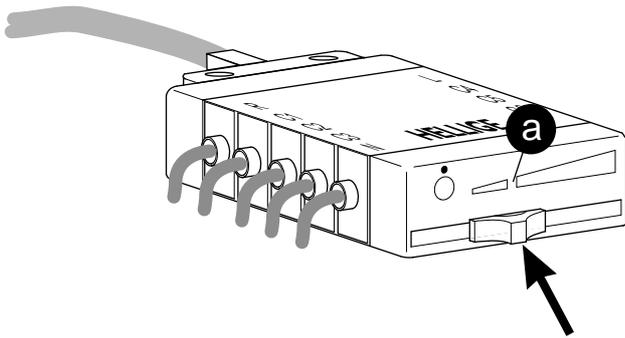

Figure 4-1. Negative pressure control at electrode distributor
**For standard applications the negative pressure control should be set to the gap in the arrow marker (a, Figure 4-1). This setting is in most cases sufficient for resting ECGs, while exercise tests will require a slightly higher setting. Be careful to determine the correct negative pressure level required in the respective situations. Be aware that excessive negative pressure settings and prolonged electrode application times may provoke hematomas (change electrode sites, if required). When using the system on small children or other patients with delicate skin, do not choose negative pressure settings in the upper range.**
- \* Set the negative pressure control to the standard position (a, Figure 4-1).